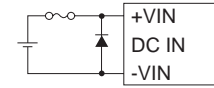

Fig.3.3 Reverse Input Voltage Protection
■Avoid applying reversed-polarity voltage to the power module as it will damage the power module. To protect the power module from reversed polarity voltage, installing an external diode as shown in Fig. 3.3 is recommended.